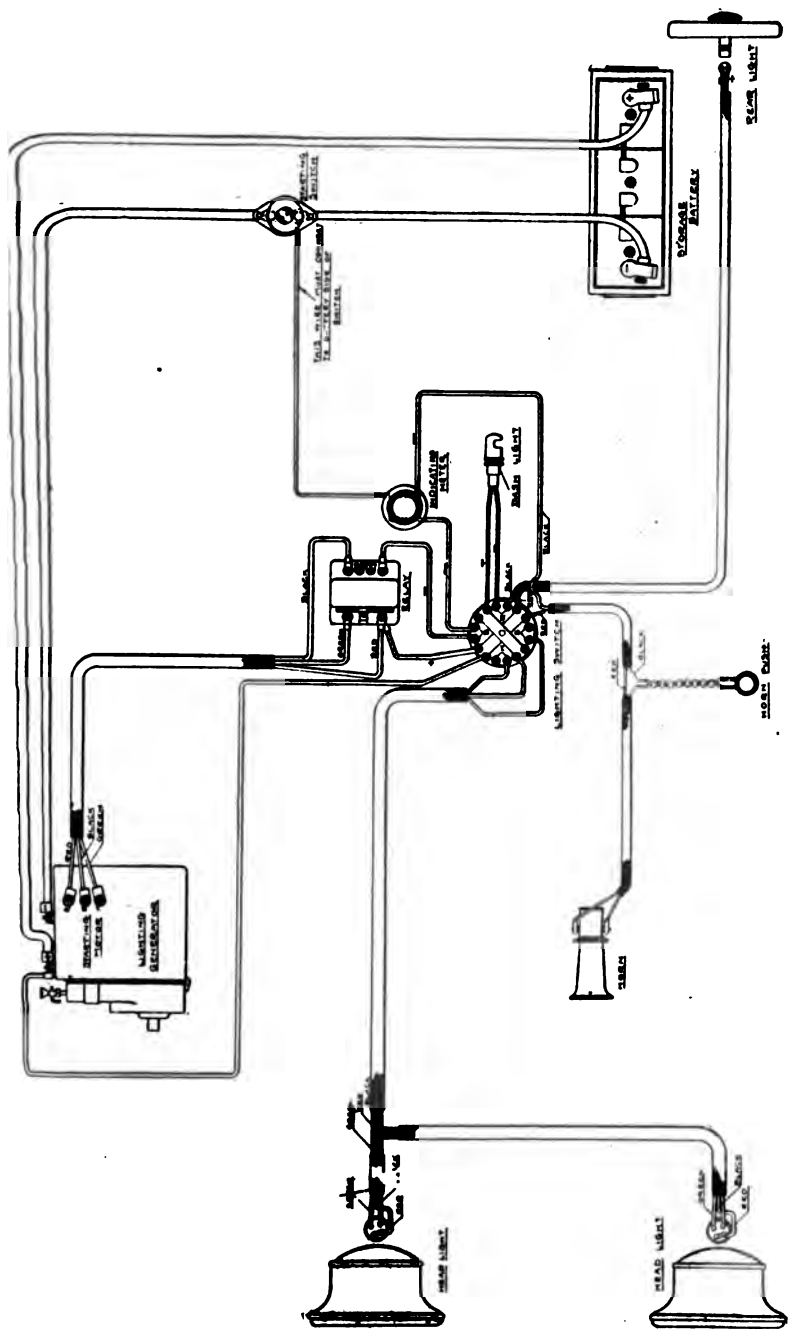

Fig. 319. Wiring Diagram for Remy Double-Deck Unit on the National Six
*National.* A typical installation of the single unit, or so-called double-deck unit, is shown in Fig. 319. This is on the National six-cylinder model and is a two-wire system. It is not interconnected with the ignition system, so there are no ground connections, and no fuses are employed.